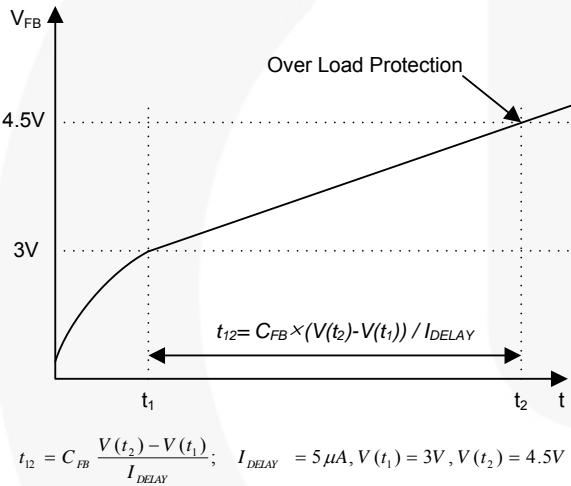

Figure 19. Overload Protection (OLP)
**4.1 Overload Protection (OLP):** Overload is defined as the load current exceeding a pre-set level due to an unexpected event. In this situation, the protection circuit should be activated to protect the SMPS. However, even when the SMPS is operating normally, the overload protection (OLP) circuit can be activated during the load transition. To avoid this undesired operation, the OLP circuit is designed to be activated after a specified time to determine whether it is a transient situation or an overload situation. If the output consumes more than the maximum power determined by  $I_{LIM}$ , the output voltage ( $V_O$ ) decreases below its rating voltage. This reduces the current through the opto-coupler LED, which also reduces the opto-coupler transistor current, thus increasing the feedback voltage ( $V_{FB}$ ). If  $V_{FB}$  exceeds 3V, the feedback input diode is blocked and the 5 $\mu$ A current source ( $I_{DELAY}$ ) starts to charge  $C_{FB}$  slowly up to  $V_{CC}$ . In this condition,  $V_{FB}$  increases until it reaches 4.5V, when the switching operation is terminated, as shown in Figure 19. The shutdown delay time is the time required to charge  $C_{FB}$  from 3V to 4.5V with 5 $\mu$ A current source.